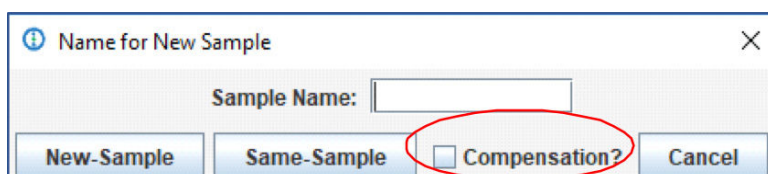

Figure 54. Applying compensation to new samples.
2. When starting sample analysis or sort, check the “Compensation?” box in the “Name for New Sample” window (Fig. 54).
NOTE: Compensation matrices can be used to analyze existing sample files, but also applied to new samples. Once loaded, the most recent compensation matrix will be applied to the next analyzed sample by default. To disable this, deselect the “Compensation?” box in the “Analyze” window (Fig. 54).